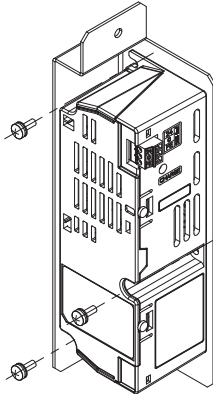

Figure 25 Securing the Option Unit to the Bracket
6. Use a Phillips screwdriver (M4) and the screws included in the option package to fasten the option to the bracket in the three locations shown in **Figure 25**.